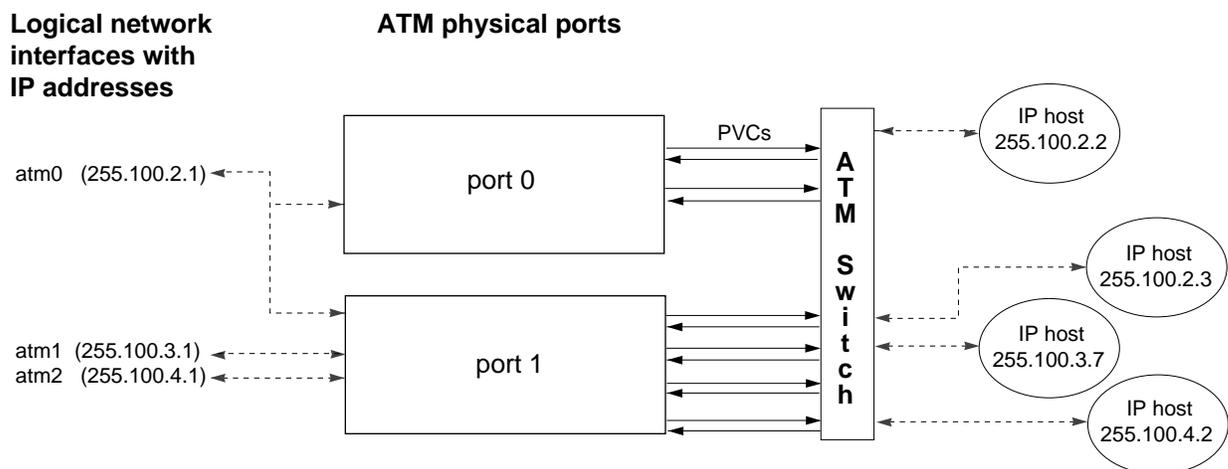

Figure 1-22 Multiple IP Interfaces Using a Single ATM Physical Port With PVCs
- For each entry in the table, the *atmarp* daemon sets up both a transmit and a receive PVC. By default, each PVC is setup to use LLC/SNAP encapsulation, so that it supports IP InversARP. Each PVC connects 2 members of an LIS, as illustrated in Figure 1-22.
- For each entry in the table, *atmarp* sets up both a transmit and a receive PVC. For non-LLC/SNAP usage, each entry must be marked in order to turn off this encapsulation. Each PVC connects 2 members of an LIS, as illustrated in Figure 1-22.